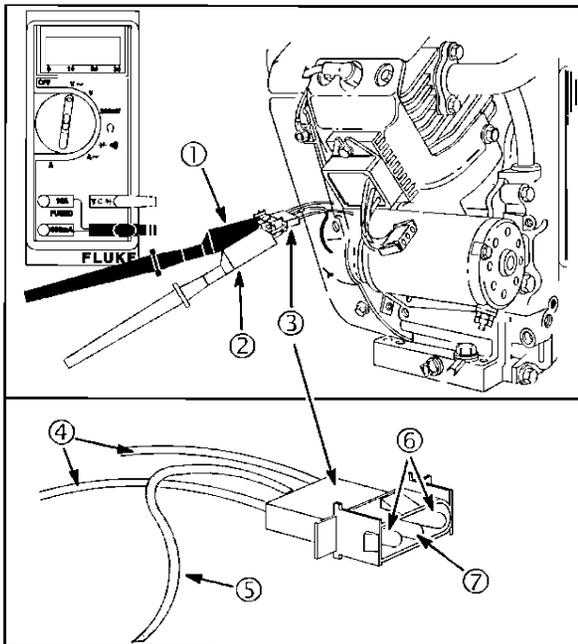

Figure 40
4. Attach RED (2) and BLACK (1) test lead probes to the YELLOW wire (4) AC output terminals (6), of the connector (3), as shown in Figure 40. (Meter test clip leads may be attached to either AC output terminal).
4. Attach RED test lead probe (2) to the RED wire (5) DC output terminal (7), of the connector (Figure 40).
5. Attach BLACK test lead probe (1) to negative battery terminal.